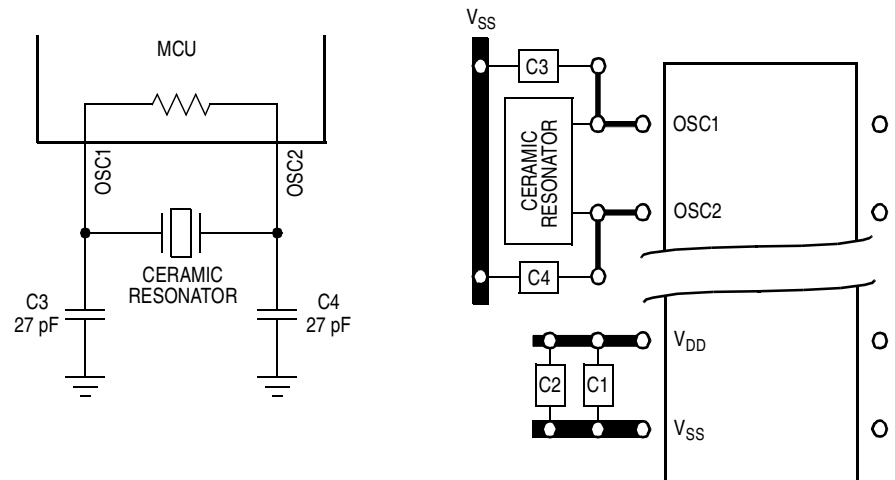
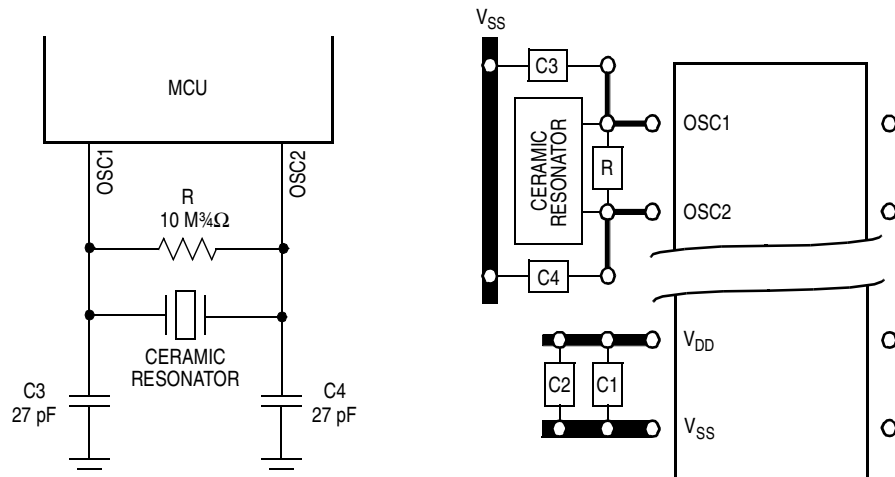
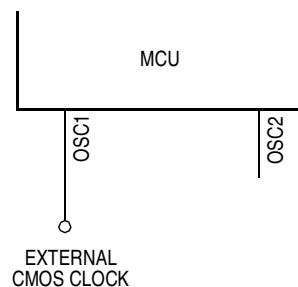

Figure 1-6. Ceramic Resonator Connections with Oscillator Internal Resistor Mask Option
Figure 1-7. Ceramic Resonator Connections without Oscillator Internal Resistor Mask Option
Figure 1-8. External Clock Connections
2. Ceramic resonator (See Figure 1-6 and Figure 1-7.)
3. Resistor/capacitor (RC) oscillator (Refer to Appendix A. MC68HRC705J1A and Appendix C. MC68HSR705J1A.)
4. External clock signal (See Figure 1-8.)
To reduce cost, use a ceramic resonator instead of the crystal. The circuits shown in Figure 1-6 and Figure 1-7 show ceramic resonator circuits. Follow the resonator manufacturer's recommendations, as the resonator parameters determine the external component values required for maximum stability and reliable starting. The load capacitance values used in the oscillator circuit design should include all stray capacitances.
An external clock from another complementary metal-oxide semiconductor (CMOS)-compatible device can be connected to the OSC1 input, with the OSC2 input not connected, as shown in Figure 1-8. This configuration is possible regardless of whether the crystal/ceramic resonator or the RC oscillator is enabled.